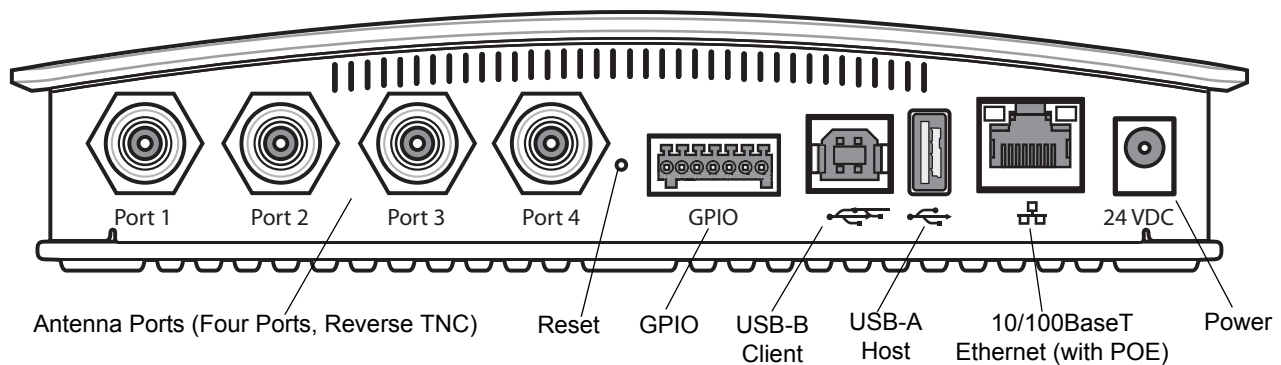

Figure 1-1 FX7500 RFID Reader Rear Panel Connections
3. Connect the antenna to antenna Port 1. See Figure 1-1.
4. Connect the Ethernet cable to the Ethernet port. See Figure 1-1.
5. Connect the AC power supply to a power outlet and connect to the power port. See Figure 1-1.